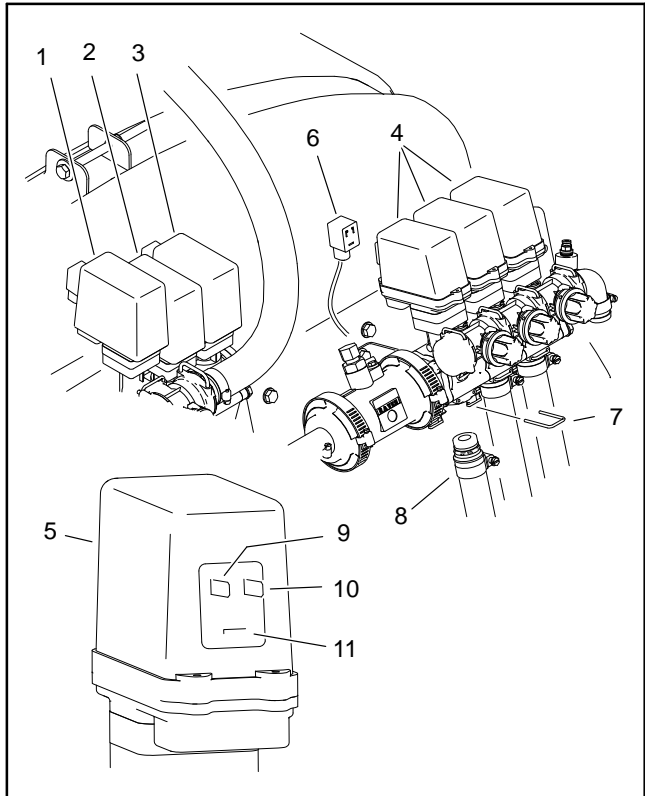

Figure 75
2. Locate valve actuator to be tested (Fig. 75). Carefully unplug machine wire harness connector from valve actuator and disconnect the hose from below the valve.